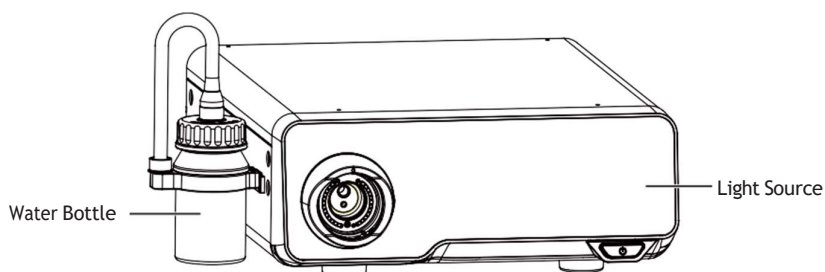

Figure 3-3 Water Bottle Installation
1. Tighten the bottle cap, then fix the water bottle on the bracket, as shown in Figure 3-3.